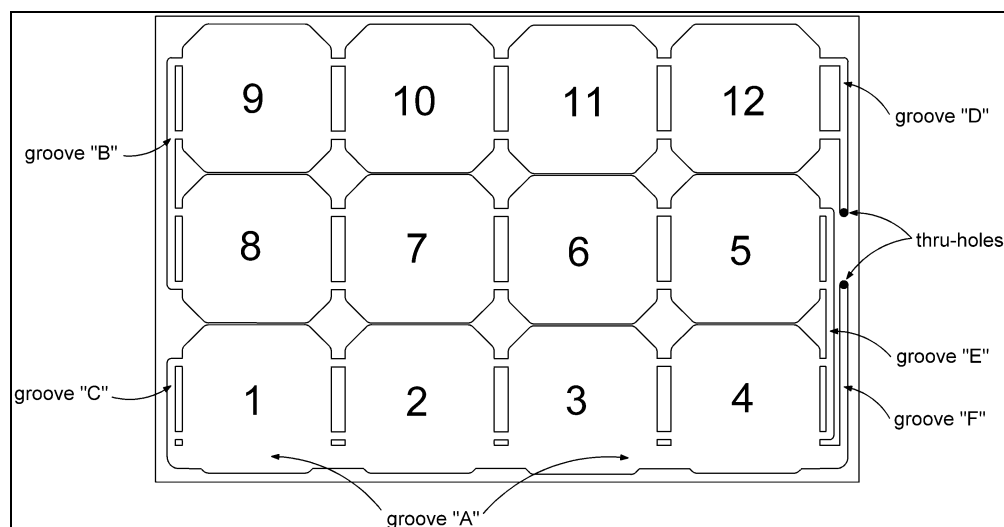

Figure 11
- ✓ Test your solder connections by using an ohmmeter and doing a continuity check between bus-bars "C" and "F." (See Figure 11 for groove locations.)
- ✓ Next do the same for the bus-bar in groove "F" and measure continuity each of the other ends of the double bus-bar. This checks the continuity of the solder connections between each of the solder bridges to bus-bar "F." All (5) measurements should be zero (or near zero) ohms. If not, then re-flow your solder connections to make it so.